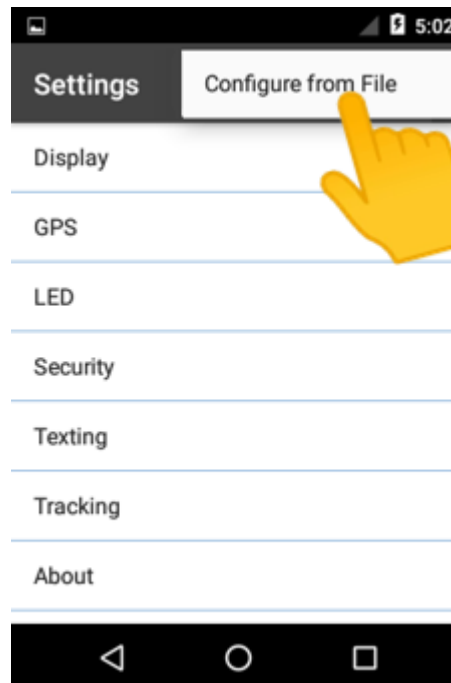

Figure 90: Tap *Configure from File*
17. Tap **Configure from file** (see **Figure 90**).